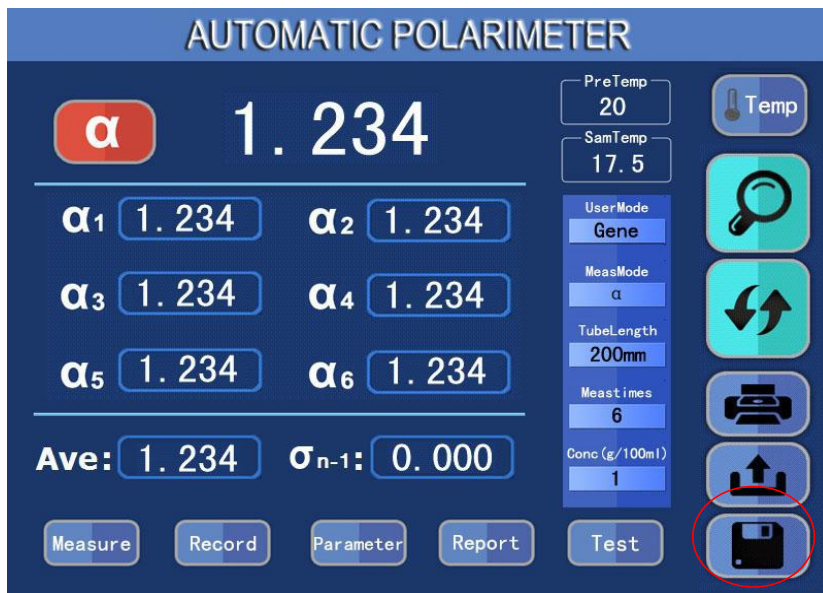

Figure 5
- 2) Place the sample and press "measure" key, and the measurement results will be displayed when the measurement is finished. See Figure 5.